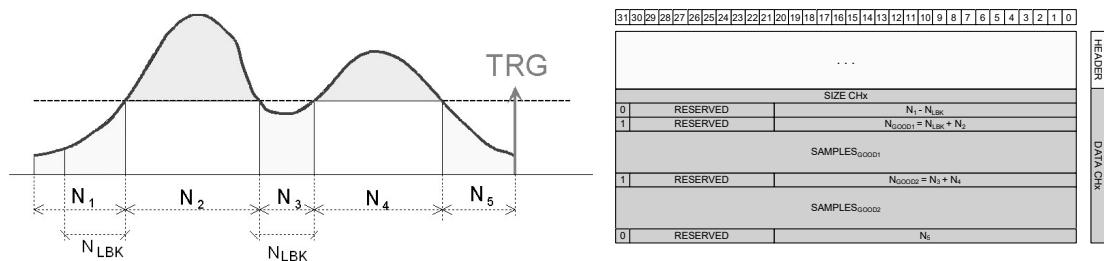

Fig. 8.14: Example with positive logic and N_{LBK} overlapping with N_3 .
3. Consider the case where N_{LBK} overlaps with N_3 ($N_3 \leq N_{LBK} < N_1$) and $N_{LFWD} = 0$. In this case all samples of N_3 are tagged as good and acquired. See for example Fig. 8.14. The same happens in case $N_{LBK} = 0$ and $N_3 \leq N_{LFWD} < N_5$.